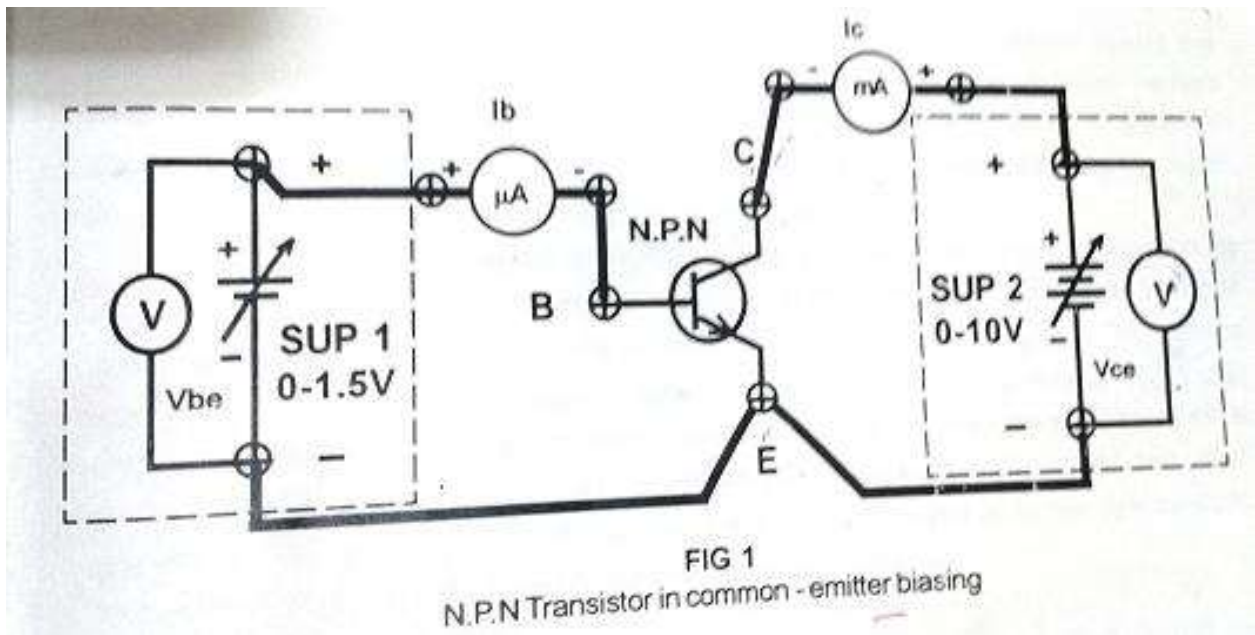

FIG 1
(A) For input characteristics.(Fig.1)
(B) For output characteristics.(Fig.1)
- 1.1. Keep both supply controls at minimum position (fully counter-clockwise). Connect gate-source connections with gate supply V_{GS} as shown in fig.1.
- 1.4. Reverse the gate-source connections as shown in fig.1. Now the gate terminal is negative than source.